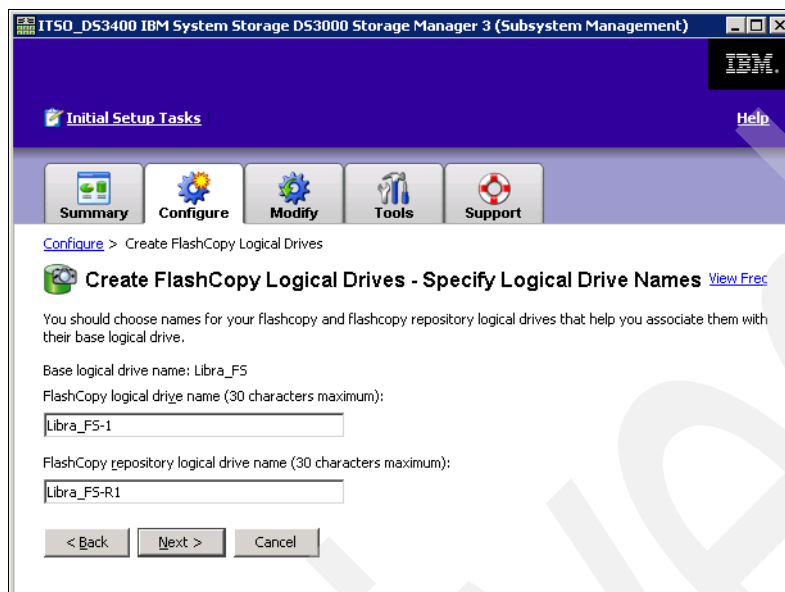

Figure 9-64 FlashCopy - Specify Drive Names
2. The Specify Logical Drive Names window appears. Choose names for the FlashCopy logical drive and its associated repository logical drive (Figure 9-64).
1. The Specify Logical Drive Names window appears, just as it appeared in Figure 9-64 on page 190, with the same naming conventions. If required, edit the names and click **Next**.